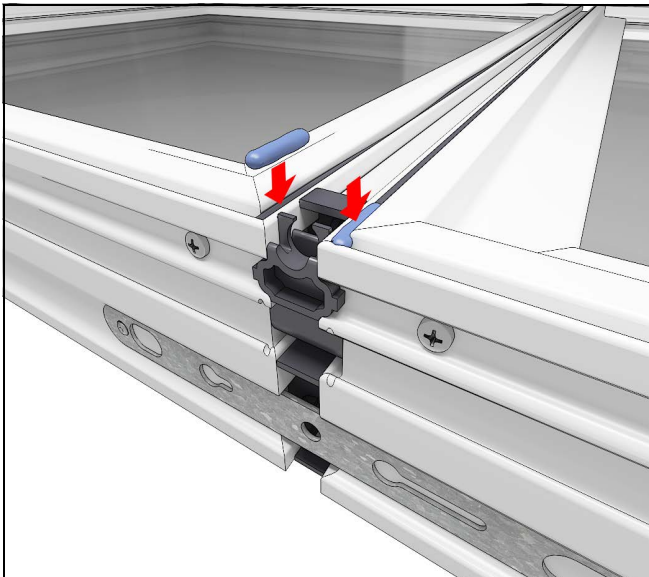

Figure 12
2. Using a high quality sealant loaded into a caulking gun, add 1" long x 1/8" wide bead of silicone to each end of accessory kerf. Locate bead on top of the inserted kerf weather strip to seal ends of the mull cover. See Figure 12.